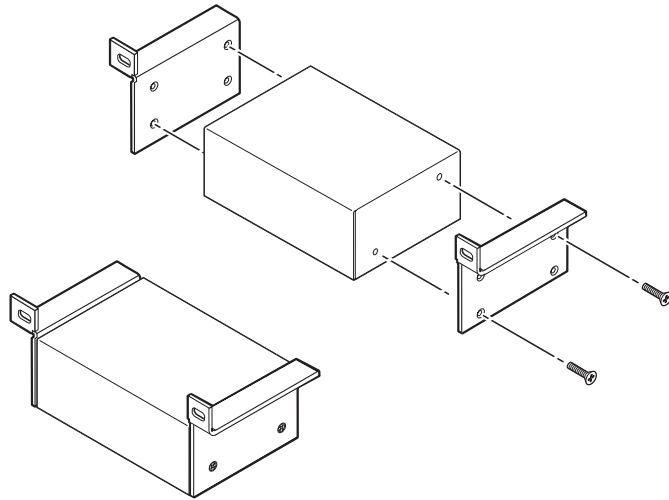

Figure 2-4 — Attaching the back of the rack mounting brackets to the YCS SW2 A
3. Attach one bracket to the side of the unit, using the longer screws included in the mounting kit (see figure 2-4, below).